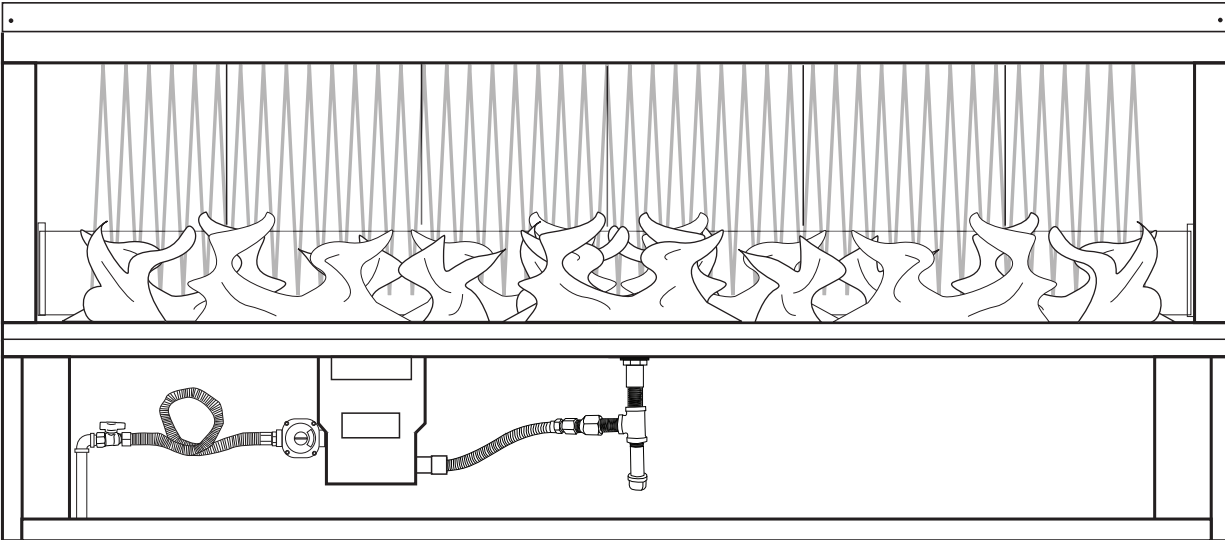

Fig. 40 Proper flame height.
Proper flame height (Fig. 40) should be at the top edge of glass windshield (peaking above at times) while on HI setting. **Note:** Glass windshield is 7-inches tall. The LO setting will be at least half of the height of HI or maybe lower. There can be a variance in flame height between Natural Gas and Liquid Propane (LP) Gas models.